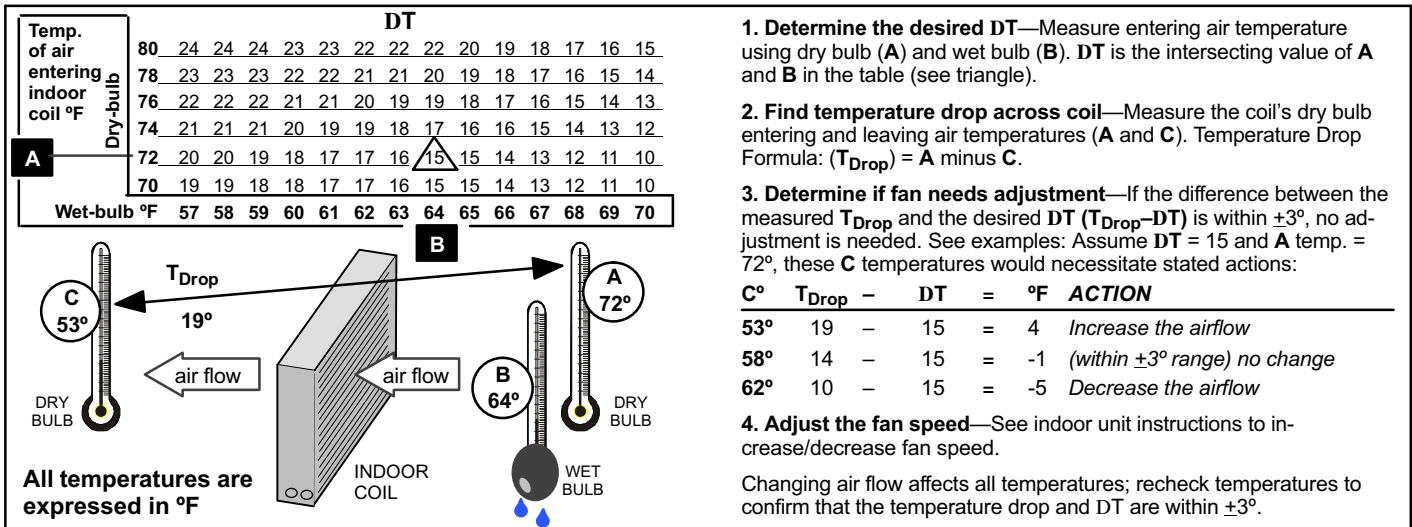

Figure 29. Checking Indoor Airflow over Evaporator Coil using Delta-T (DT) Chart
Check airflow using the Delta-T (DT) process using the illustration in figure 29.
1. Confirm proper airflow across coil using figure 29.